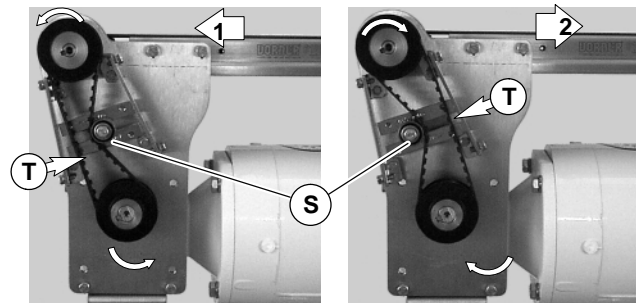

Figure 32
10. Depending on conveyor belt travel (1 or 2 of Figure 32), locate timing belt tensioner (S), as shown. Tension timing belt to obtain 3mm deflection for 4.3N of force at timing belt mid-point (T). Tighten tensioner to 51Nm.